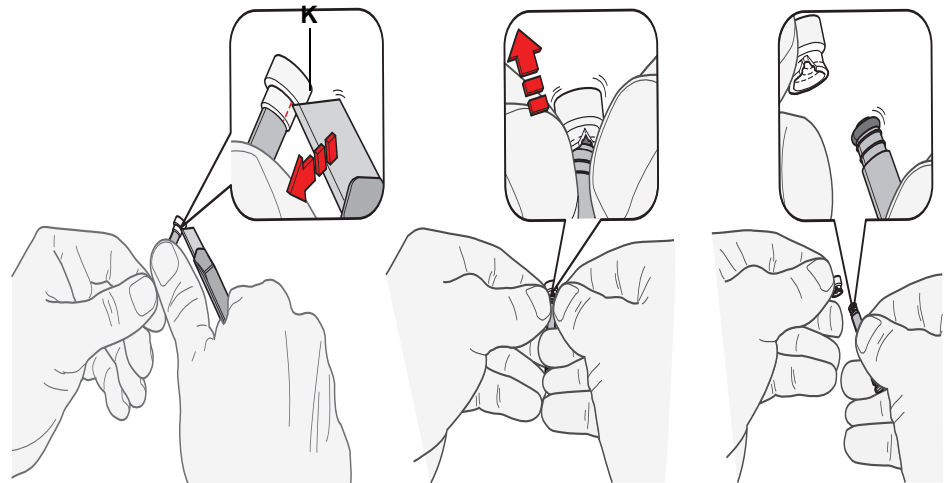

Fig. 7-27 Syringe cap
- 3 Remove the cap (K) from the plunger Fig. 7-27 , 7-39.